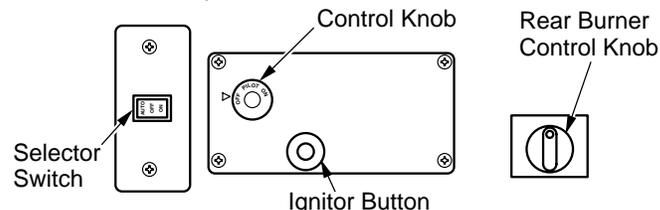

Figure 34 - Control Knobs, Selector Switch and Ignitor Button Locations for Hand-Held Remote Operation
1. After lighting, let pilot flame burn for about one minute. Turn control knob to ON position. Adjust flame adjustment knob anywhere between HI and LO. Slide the selector switch to the REMOTE position (see Figure 34). **Note:** The burner may light if hand-held remote was on when selector switch was last turned off. You can now turn the burner on and off with the hand-held remote control unit.